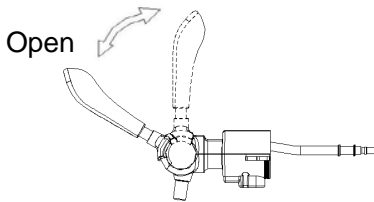

Figure 13
9. Adjust the CO2 pressure regulator knob to “+” position, to pour the beer out by pulling down the tap mechanism about 45°, and you can adjust the pressure regulator knob to control the beer flow rate and beer bubble; (Figure 13)